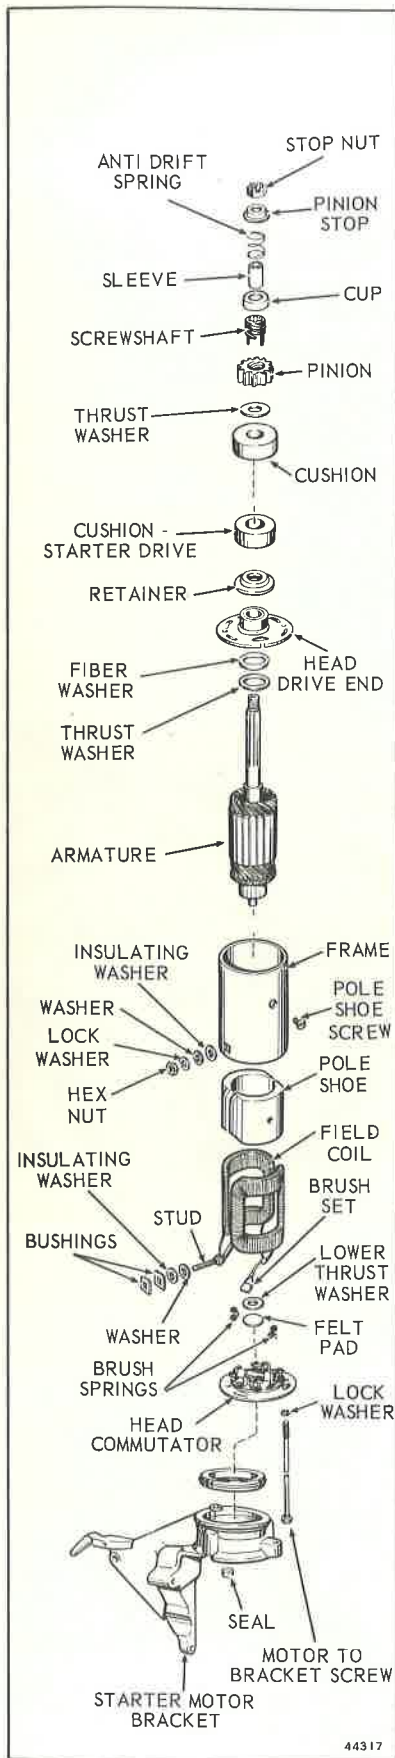

Figure 7-5. Starter Assembly
- Remove commutator head by tapping lightly with a rubber mallet. Remove brushes and spring from holder. Lift armature from frame and field assembly. See Figure 7-5.